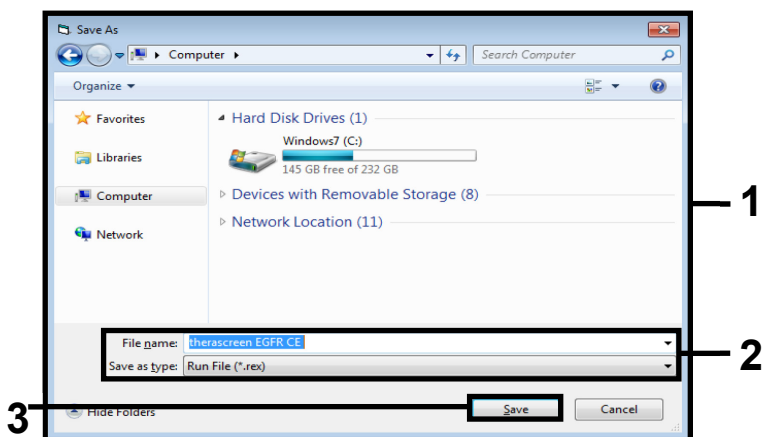

Figure 15. "Save As" window (1) (2 = "File Name" and "Save as type" fields; 3 = "Save" button).
17. The “Save As” window opens. Chose an appropriate file name and save the PCR run as a \*.rex run file to the selected location. Click “Save” (Figure 15).